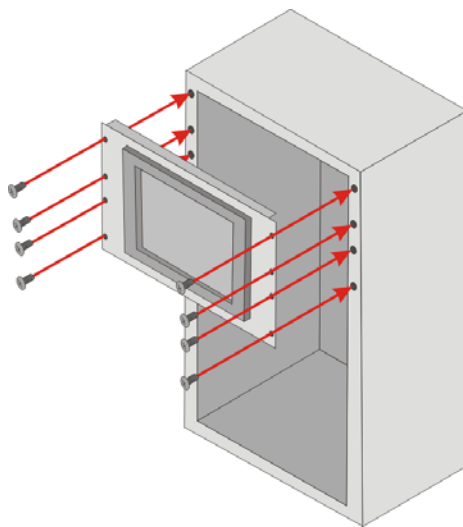

Figure 3-19: Install into a Rack/Cabinet
Step 7: Slide the flat bezel panel PC with the attached rack/cabinet bracket into a rack or cabinet (**Figure 3-19**).
Step 8: Once the flat bezel panel PC with the attached rack/cabinet bracket has been properly inserted into the rack or cabinet, secure the front of the rack/cabinet bracket to the front of the rack or cabinet (**Figure 3-19**).